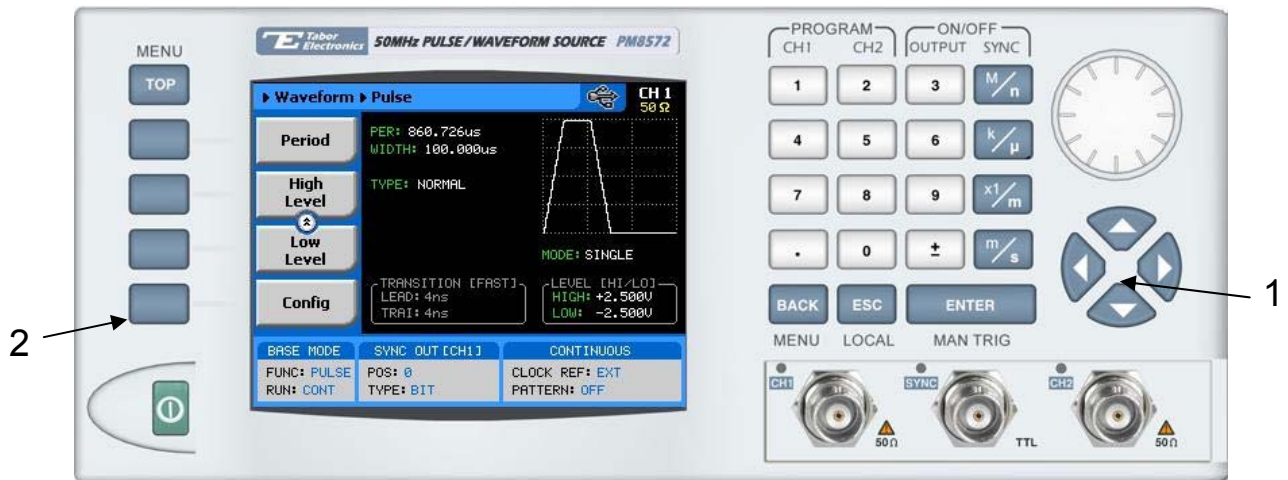
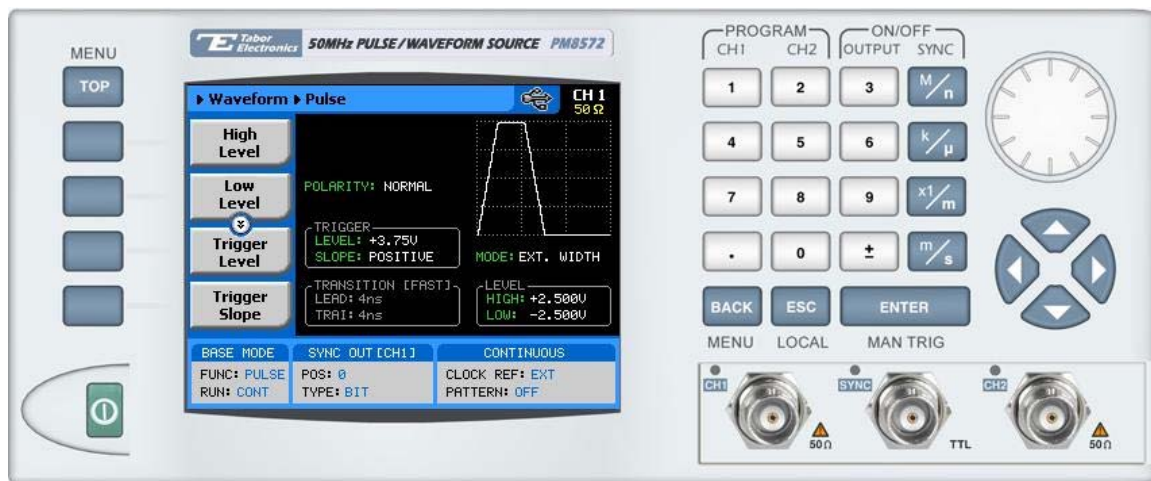

Figure 3-17, Accessing the Pulse Configuration Menus
Figure 3-28, External Pulse Width Menus
3. Press the Mode soft key, as shown in Figure 3-17.
To modify the pulse mode to external width mode, use the procedure as given above under the Pulse Modes heading along with Figures 3-17 and 3-18. Note that period and width settings become irrelevant because both are being extracted from the external signal. These parameters are being replaced by the trigger level and trigger slope parameters, as shown in Figure 3-28.